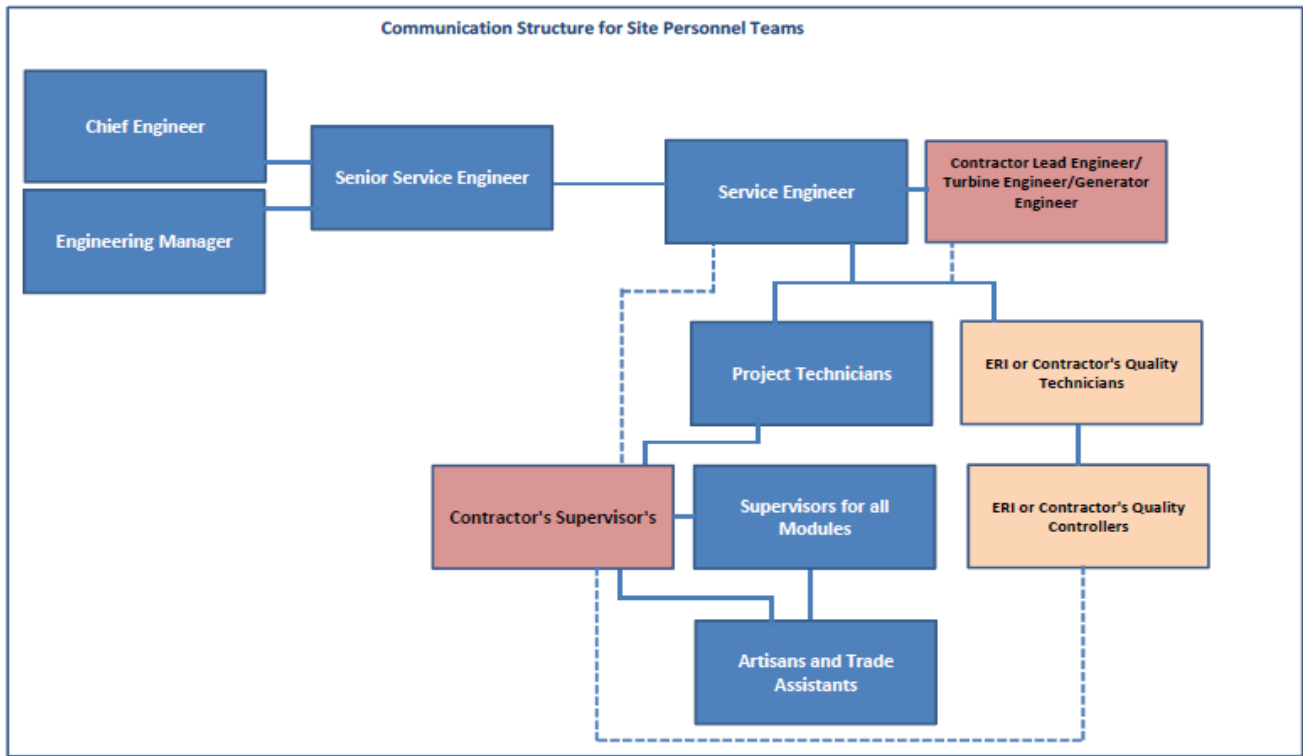
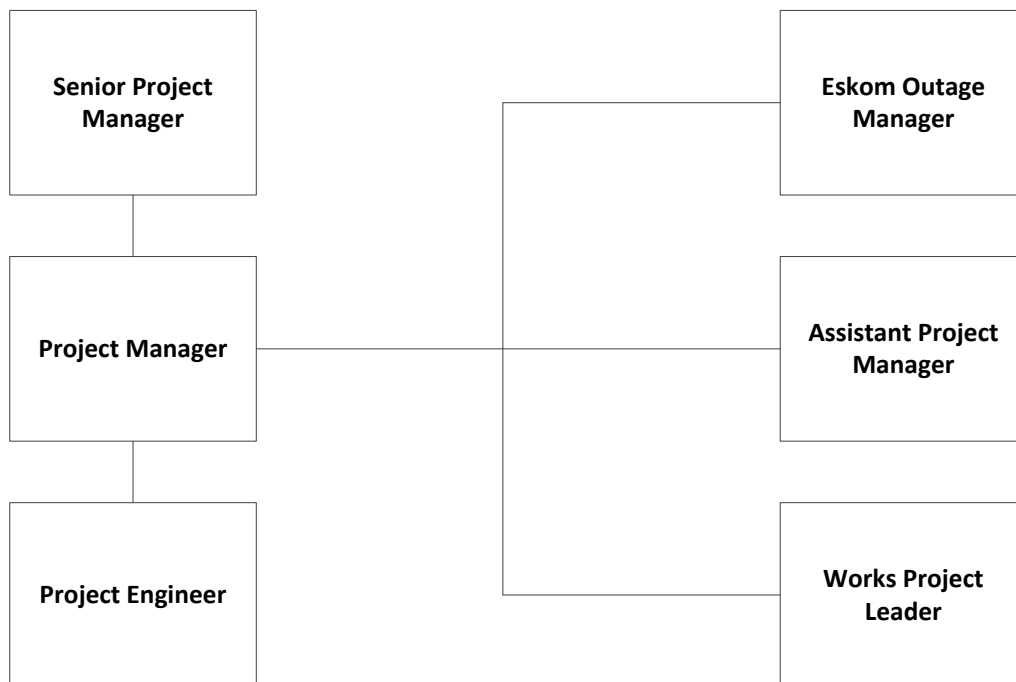

Figure 2: Generic Reporting Structure for Specialised Skills.
Figure 3: ERI Site Project Manager Reporting Structure.
- The specialised resources that will be provided on outages must understand the roles and responsibilities highlighted below. Specialised resources will report to the Site Team and will integrate into the Team. It is the duty of the Contractor to ensure smooth integration of Teams and smooth execution between all stakeholders. Figure 2 below is an example of the reporting structure that can be used. It will be the responsibility of the ERI Site Team to validate the specialised resources needed on site, per project, per Task Order. This will be agreed upon in the execution Strategy between the Project Manager/ Site Manager, and Contractor. The Contractor will need to ensure that he agrees to applicable Key Performance Indicators (KPI’s) upfront, based on the resources he provides. Figure 3 below refers to the internal reporting structure of the